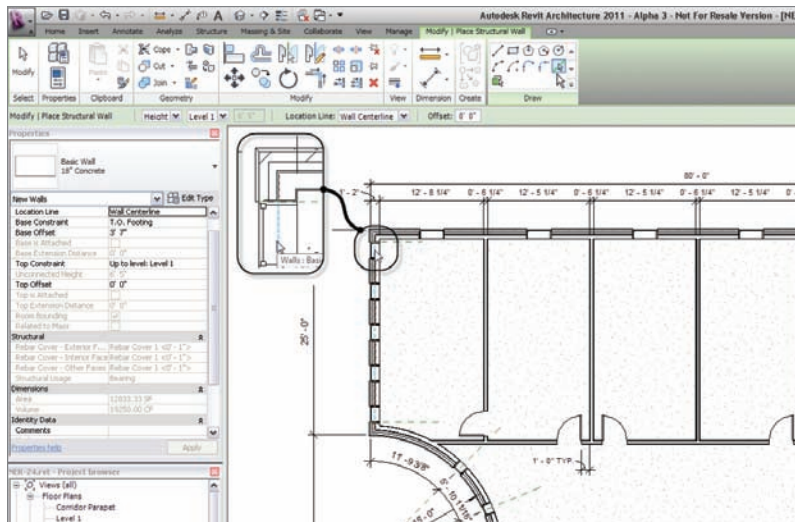

FIGURE 8.50 Picking the core centerline of every exterior wall in the entire model. This includes the corridor and both wings.
8. Pick the core centerline of the exterior wall, as shown in Figure 8.50.